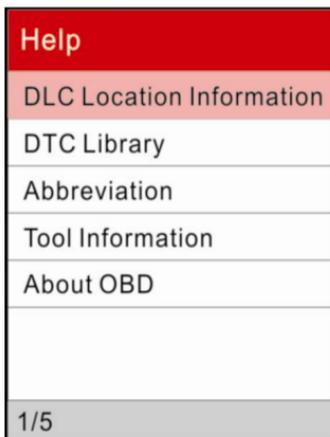

Figure 7-5
7. Select [Tool Information], press [OK]. (Figure 7-5)